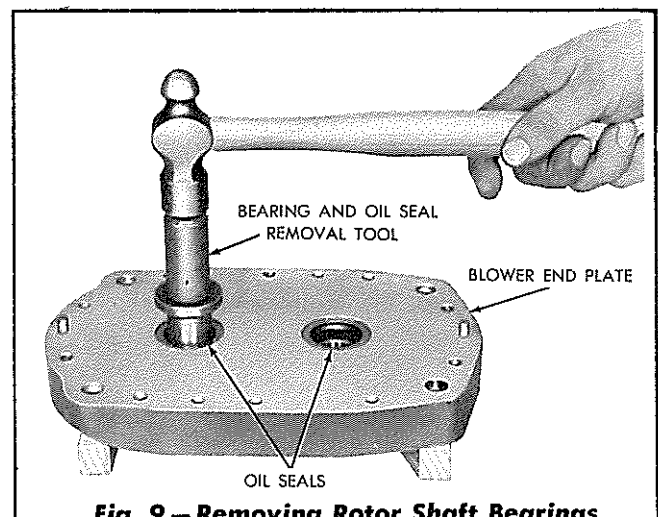

Fig. 9 – Removing Rotor Shaft Bearings
8. Remove the bearings from the blower end plates by using the bearing remover tool as shown in Fig. 9. Insert the tool through the oil seal from the inner face of the blower end plate so that the pilot of the tool enters the bore in the inner race of the bearing and the shoulder of the tool rests against the bearing inner race. Support the end plate on blocks about two inches high and drive the bearing out of the end plate. Follow the same procedure on all four bearings.
9. Remove the oil seals from the blower end plates. The seals may be removed from the end plates at the same time that the bearings are removed by continuing to drive down on the tool shown in Fig. 9; the collar of the tool will contact the seal and drive it out of the plate.